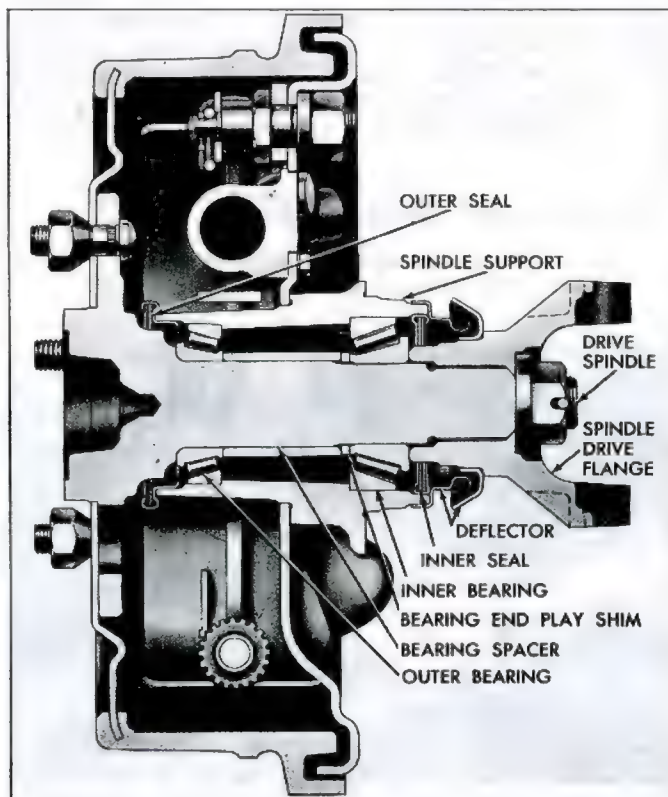

Fig. 66—Wheel Spindle and Support Cross Section
7. Remove spindle and bearing assembly, spacer and shim from the spindle. Then remove dust deflector and inner seal from spindle support (fig. 66).